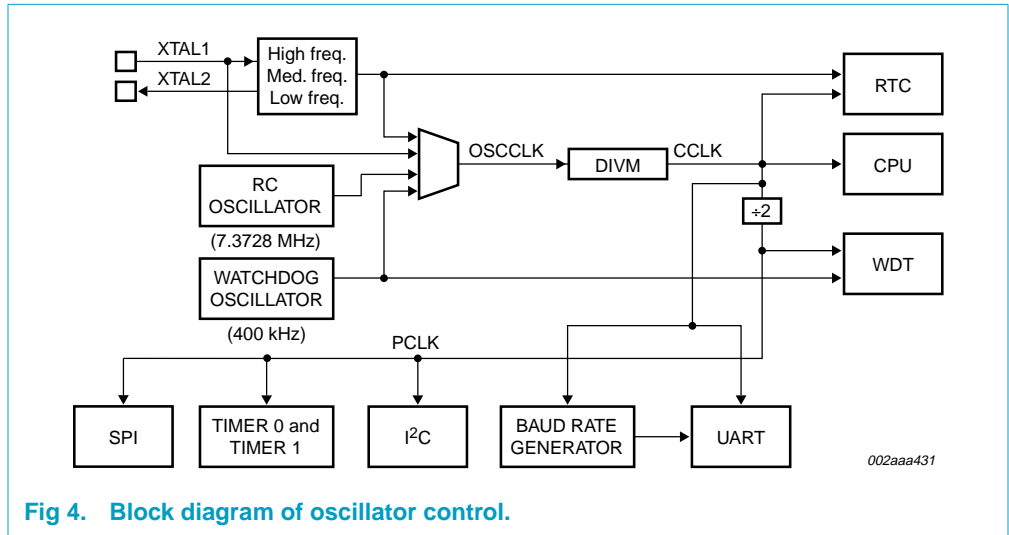

Fig 4. Block diagram of oscillator control.
**OSCCLK** — Input to the DIVM clock divider. OSCCLK is selected from one of four clock sources (see Figure 4) and can also be optionally divided to a slower frequency (see Section 8.7 “CPU CLOCK \(CCLK\) modification: DIVM register”).